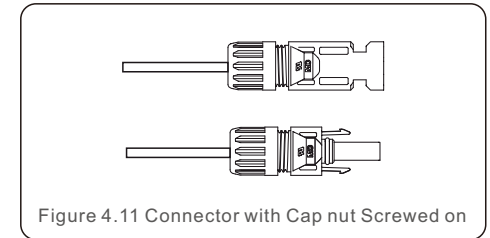

Figure 4.11 Connector with Cap nut Screwed on
4. Insert the contact pin to the top part of the connector and screw up the cap nut to the top part of the connector. (see figure 4.11).